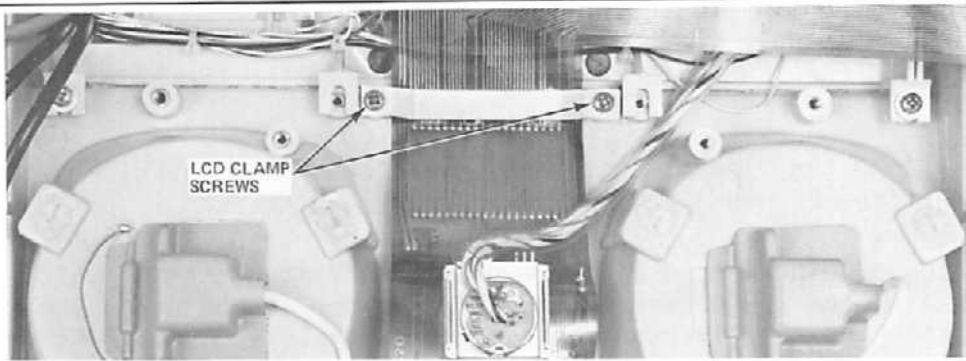
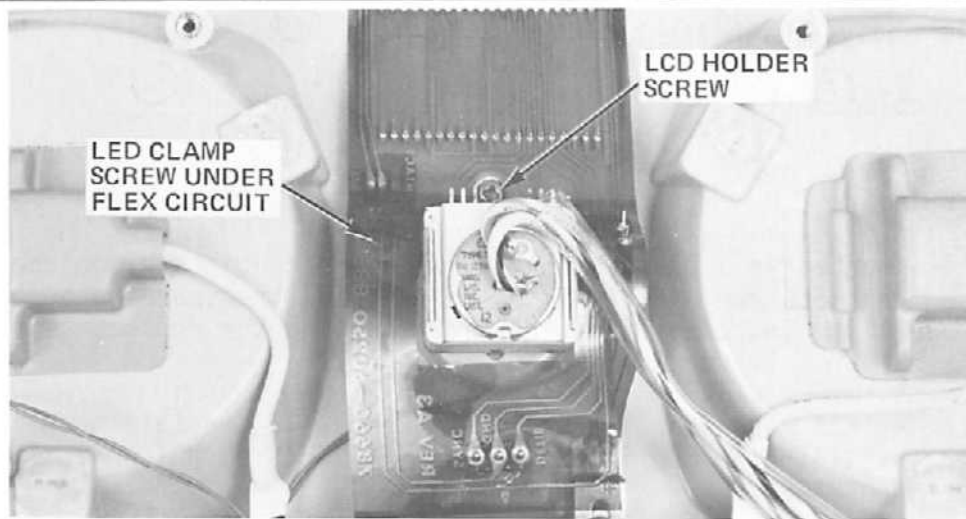

Figure 4-26.
Figure 4-27.
2. Remove the two screws that secure the internal test load resistor. It is not necessary to remove the wires. Lift the resistor and position it over the handle opening (see Figure 4-26).
3. Remove the two screws from the LCD clamp (Figure 4-26) and the single LCD holder screw, located directly behind the ENERGY SELECTOR switch (Figure 4-27).